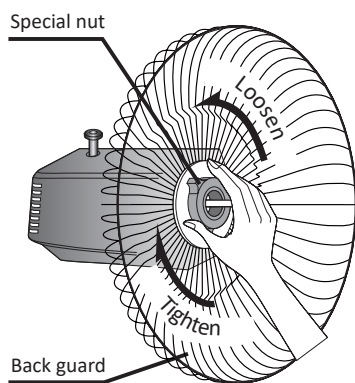

Fig. 1
1. Remove spinner and special nut from the motor shaft. Align the holes of the back guard with the front of the motor cover and fix with the special nut. (Fig. 1)